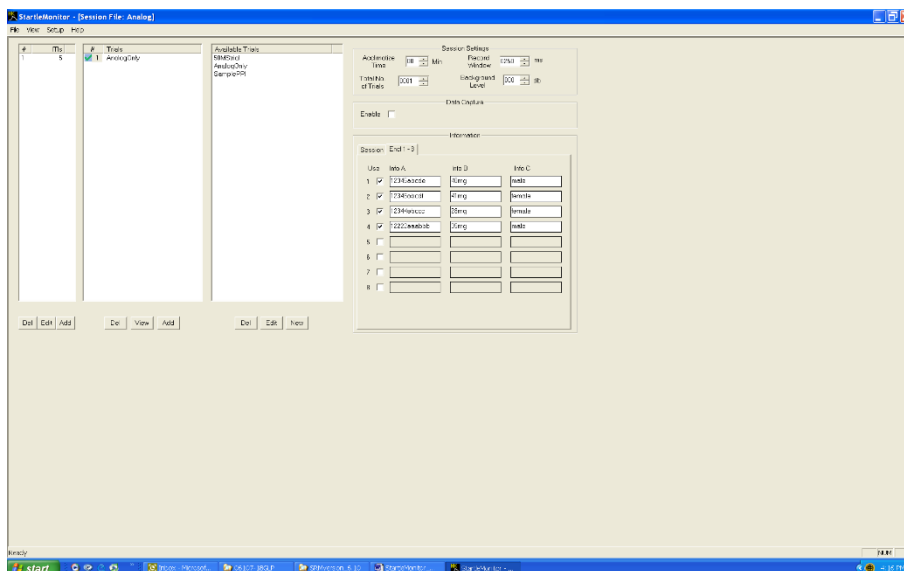

Figure 69 Session/Trial Editing
2. Select the desired file, and then select **Open**. Your screen should appear similar to the one shown in Figure 69.